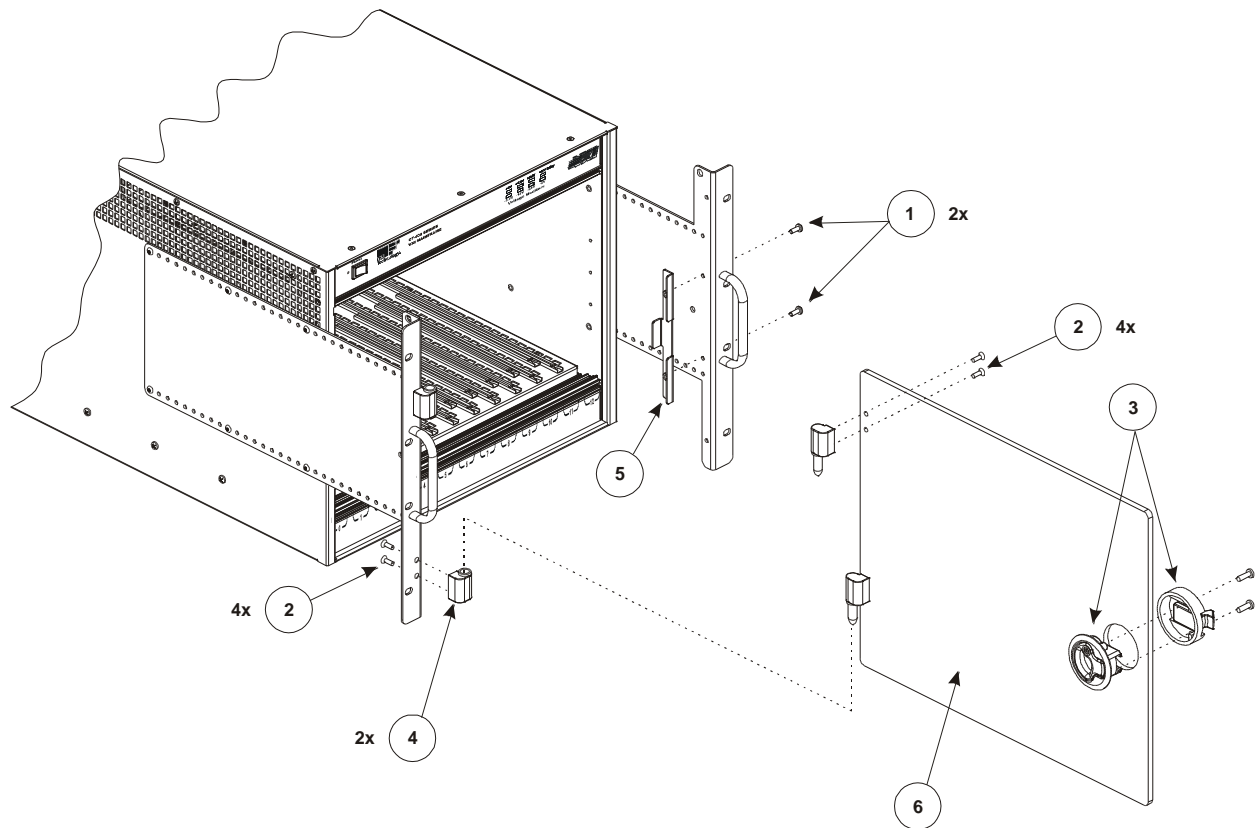

FIGURE 2-6: TRANSPARENT DOOR INSTALLATION DIAGRAM
- 2) Locate the nylon hinges. Separate the hinges into its male and female components. Attach the female component to the left rack mount flange using 8-32 x 3/8" flat head Phillips screws as illustrated in Figure 2-6. Note that the holes of the component are oriented in an upright position.
- 3) Take the male components and attach them to the transparent bronze door using the 8-32 x 3/8" flat head Phillips screws provided. Use Figure 2-6 for guidance in orienting this component.